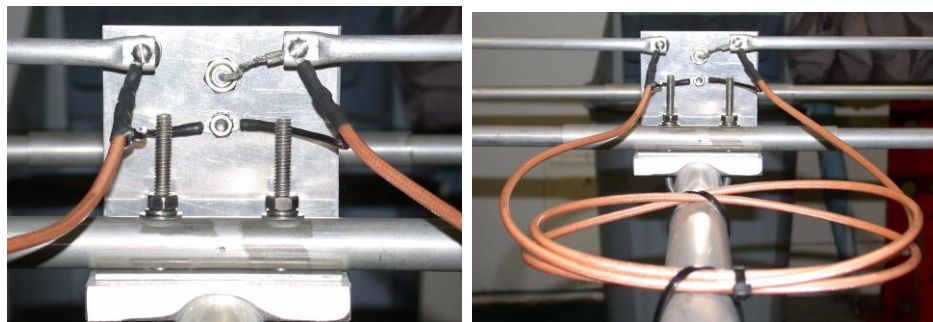

Figure 2
9. Connect both ground wires from both ends of the balun to the grounding screw just below the connector. Place an internal tooth lock washer on the stud first, then a lug, then another internal tooth lock washer, then the other lug, another internal tooth lock washer and then the nut and tighten. Refer to Figure 2 for details.